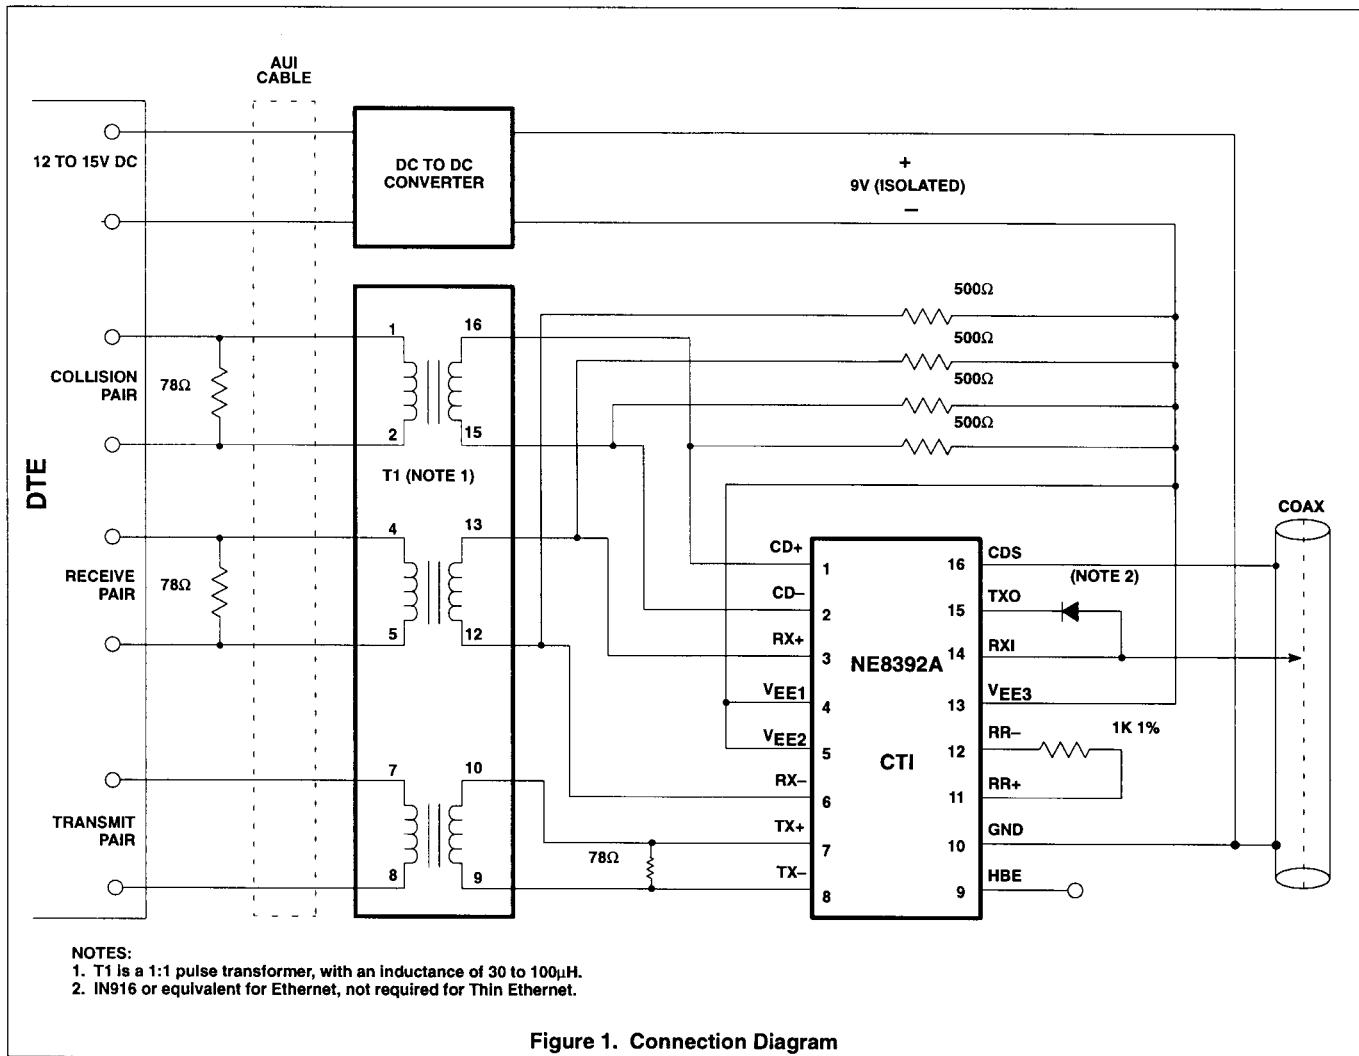

Figure 1. Connection Diagram
6. Measured on secondary side of isolation transformer (see Connection Diagram, Figure 1). The transformer has a 1:1 turns ratio with an inductance between 30 and 100 $\mu H$  at 5MHz.
- Measured on secondary side of isolation transformer (see Figure 1, Connection Diagram). The transformer has a 1:1 turn ratio with an inductance between 30 and 100 $\mu\text{H}$  at 5MHz.